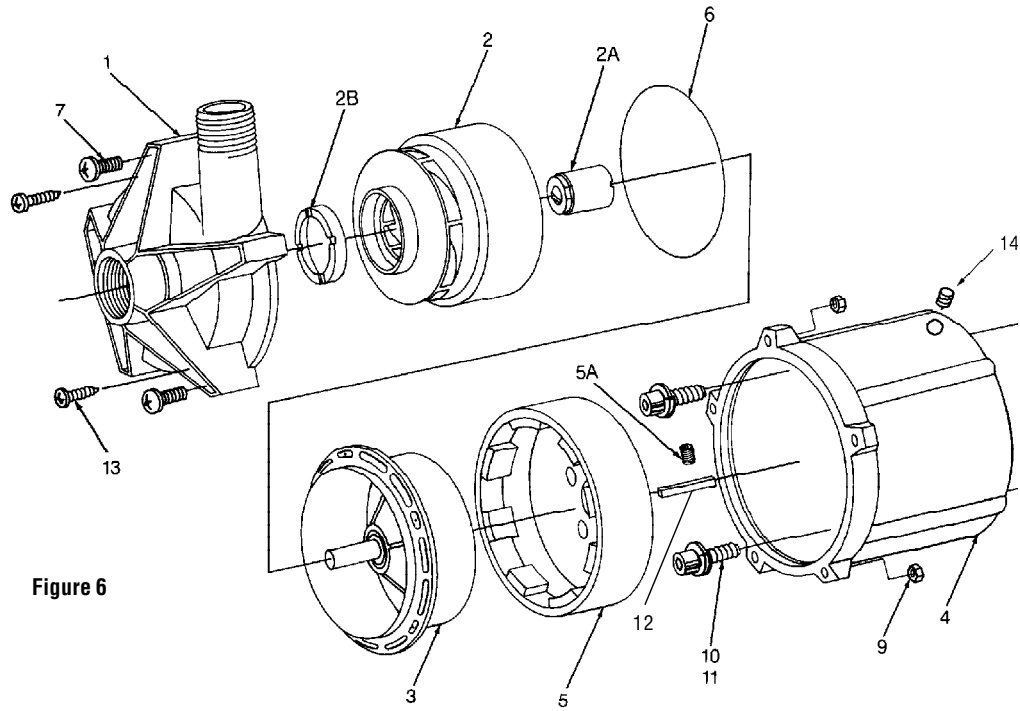

Figure 6
2. Remove two Phillips pan head screws (item 7) and hex nuts (item 9) from impeller housing. Then remove wet end assembly from motor adapter.
4. Install motor adapter (item 4) onto motor. Place 3/8" flat washers between the motor adapter and the motor. Flat washers must be aligned with motor adapter mounting holes. Align motor adapter with motor rabbet and secure with socket head cap screws (item 10) and lock washers (item 11). See figure 6 of standard manual (3/8" flat washers not shown).
2. Remove two Phillips pan head screws (item 7) and hex nuts (item 9) from impeller housing, and remove wet end assembly from motor adapter.
4. Install motor adapter (item 4) onto motor and secure with socket head cap screws (item 10) and lockwashers (item 11). Refer to Figure 6.